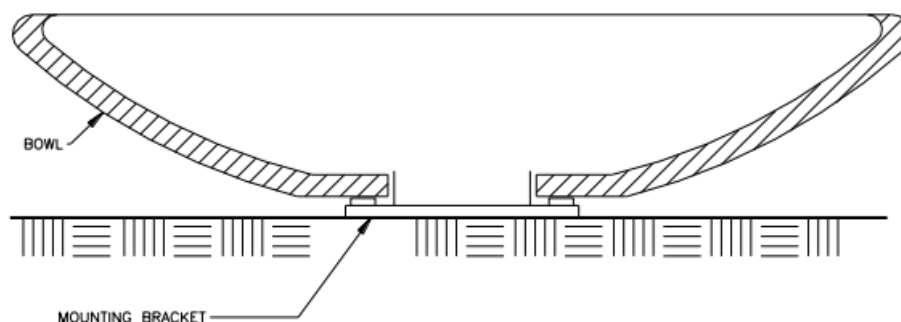

Figure 3: Fire Pit with Mounting Bracket
2. 48" Essex and 45" Cielo and 42" Legacy require a Grand Effects Mounting Bracket to be installed. The Mounting Bracket secures bowl and allows for cooling air and water drainage. Install the mounting bracket as shown in Figure 3. The mounting bracket should be secured using three bolts.